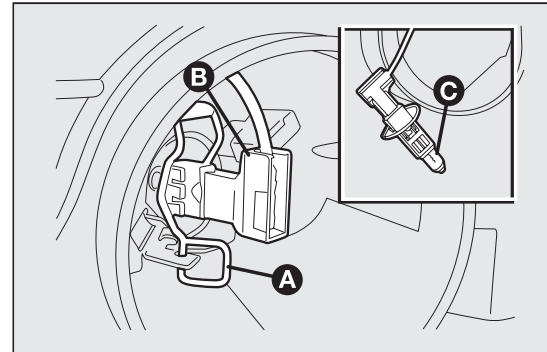

fig. 158
- release the bulb holding clip A fig. 158;